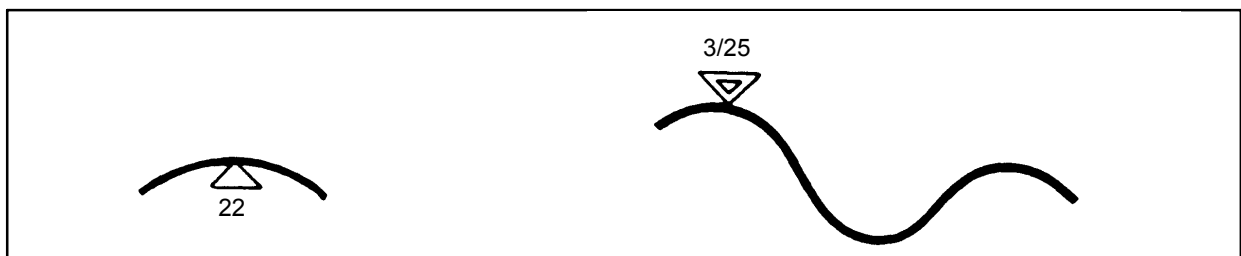

Figure 1-5. Curve Symbols
b. Sharp curves along a specified route with a radius of 45 meters and less are represented on maps or overlays by a triangle. The vertex (the point opposite to and farthest from the base) of the triangle will point to the geographical location of the curve on the overlay or map. In addition, the measured value (in meters) for the radius of curvature is written outside the triangle. A series of sharp curves is represented by two triangles, one drawn inside the other. The vertex of the outer triangle points to the geographical location of the curve. The number of curves and the radius of curvature at the sharpest curve of the series are written outside the triangle (*Figure 1-5*).